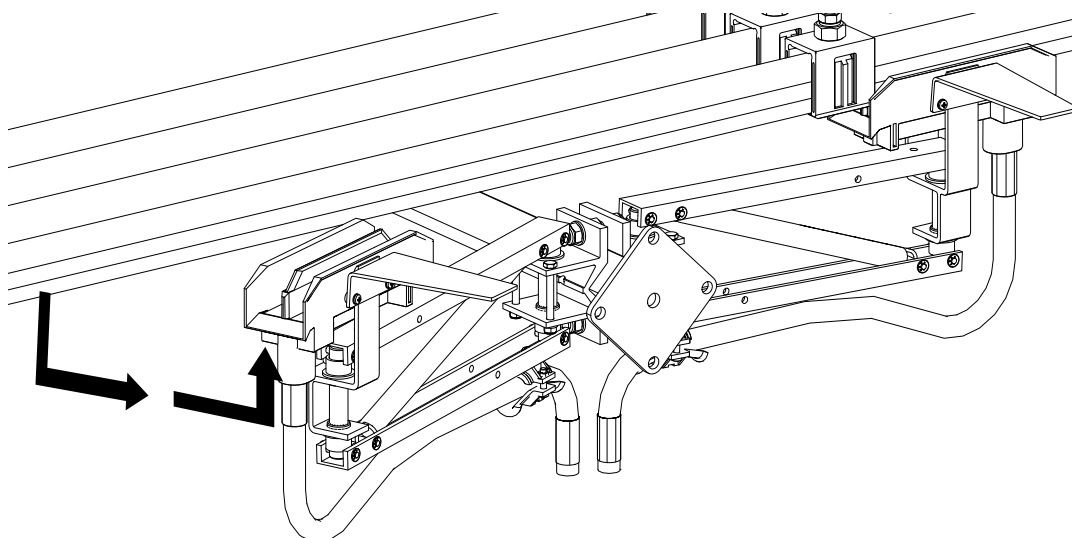
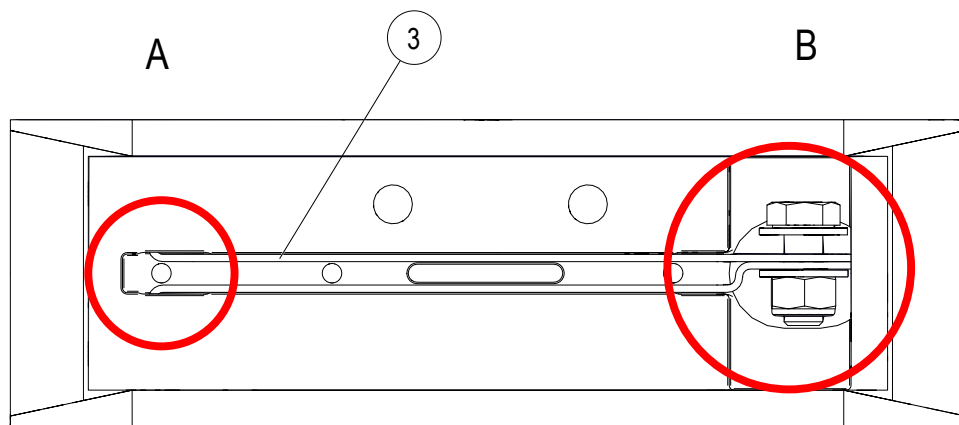
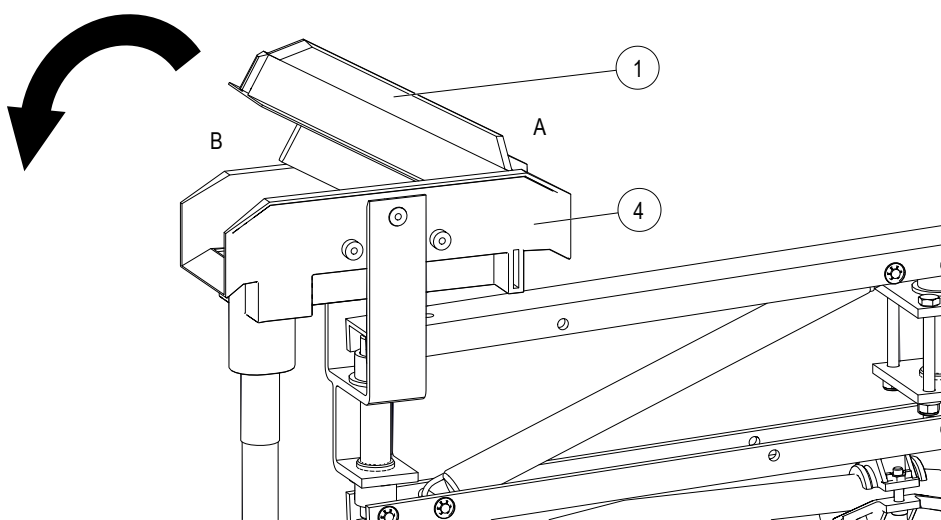

Fig. 120: Remove the current collector from the conductor rail
Fig. 122: Widest side (A) and narrowest side (B) of the contact sheet (item 3)
Fig. 123: Sliding contact recess on the side of the cable
- Pull the current collector down and turn it out from the side to be able to remove the current collector from the conductor rail (see Fig. 120). In case of more than three poles, the current collector may have to be dismantled from the towing device.
- Hold the current collector head and pull out the sliding contact (item 1) with its plastic insulator (item 2) using water pump pliers. Start pulling out on the widest side (= side A in Fig. 122) of the contact sheet (item 3) (see Fig. 120 and Fig. 122).
- Clean the area under the plastic insulator (item 2), especially the contact surface of the contact sheet (item 3) (see Fig. 122).
→ Manually press the new sliding contact with its plastic insulator into the sliding contact insulation (item 4) (see Fig. 123). Start at the widest side of the contact sheet (side A in Fig. 122) and then insert the sliding contact completely while turning it. Do not use any tools (e. g. hammer) when pressing in, as this may damage the contact surfaces of the sliding contact. The following must be observed during insertion:
- The sliding contact recess (item 1) must be located on the side of the cable (side B) (see Fig. 123).